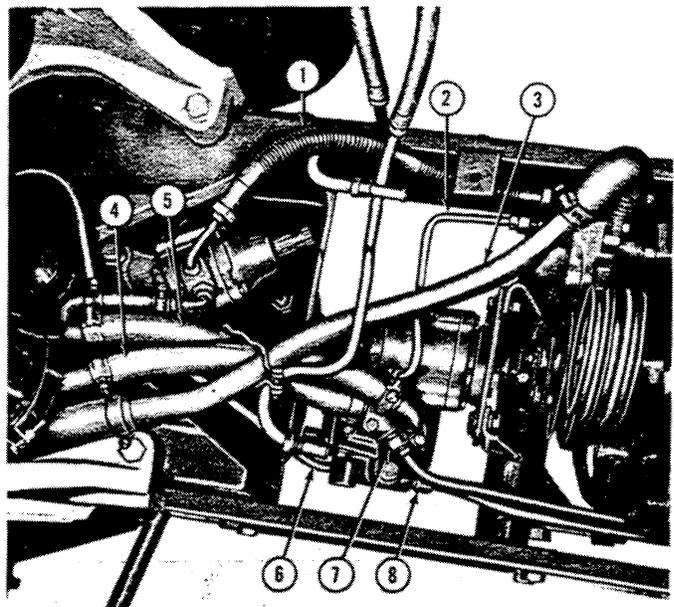

Figure 1
33. Drain the hydraulic system by disconnecting the reservoir hoses (4) and (5), Figure 1, at the unload valve and direct the oil (3-1/2 gal.) into a clean container.
34. Refer to Figure 1, and disconnect all the remaining hydraulic tubes and hoses at the unload valve. Disconnect the power steering hose (3), Figure 1, at the power steering motor and remove the power steering pump tube (2), Figure 1. Cap or plug all openings to prevent dirt entry. Use a plastic adhesive tape if caps or plugs are not available.